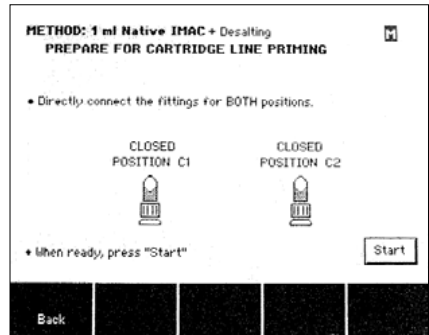

Fig. 8. Instruction screen for cartridge line priming before cartridge installation.
**Priming:** This screen directs users to make sure the fittings for both cartridge positions 1 and 2 are connected without any cartridges in place (Figure 8). Pressing Start primes the cartridge lines with buffer at high flow rate and then brings users to the Install Cartridges screen.